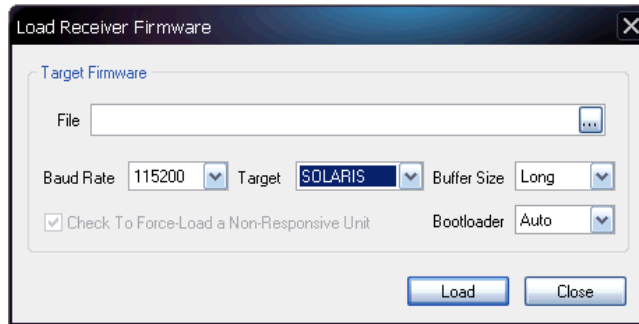

Figure 25: Load Receiver Firmware
59. Click  and the *Load Receiver Firmware* dialog box opens (see Figure 25).